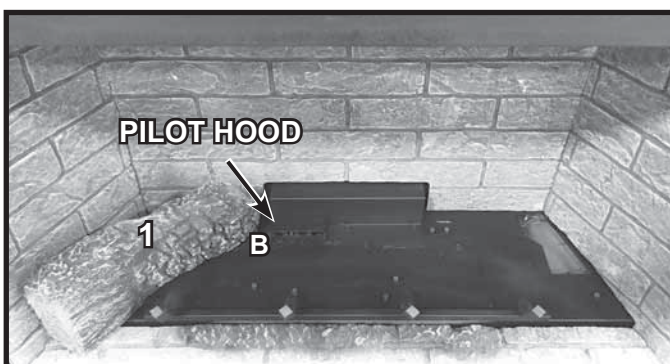

Figure 28. Log #1 Installed
**LOG #1:** Place burnout end of log #1 against the left side of pin B and the bark end between the grate and refractory. Slide the log back until it contacts the back of the firebox. Rotate the log (bark end) clockwise until it contacts the side refractory. The log will be in contact with the firebox back, pin B and the side refractory. See Figure 28.